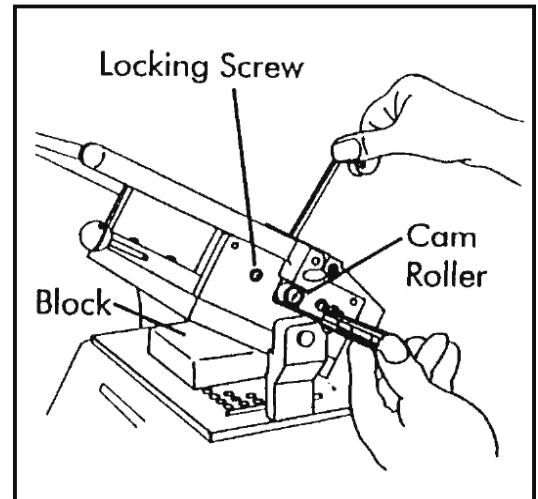

Fig. 21
- c) Next, slowly turn the screws back in until the back of the screw is even with the step. Then make (4) more complete clockwise turns.
- a) Prop up the Head Screen Plate Assembly with a block, (see Figure 21). Pull the Handle down into its locked position.